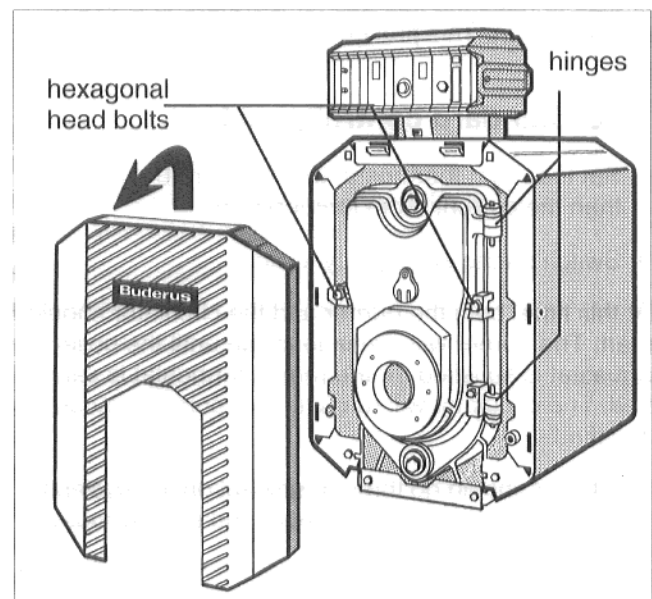

Fig. 22
- Lift the burner door cover slightly and remove toward the front (Fig. 22).
- Remove the hexagonal head bolts in the burner door and take it off (Fig. 22).